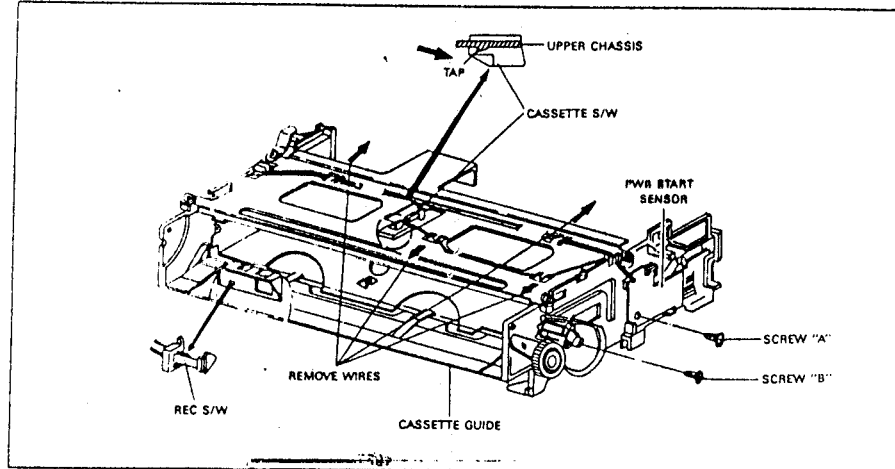

FIG. 15 REC S/W / CASSETTE S/W / PWB START SENSOR / Side Arm (R) Removal
2. Remove REC S/W (Fig. 15)
4. Release the tab of the cassette S/W and remove the cassette S/W. (Fig. 15)
5. Pwb Start sensor removal (Fig. 15)
- After removing the screw (A) at the side chassis (R), disintegrate PWB start sensor.
6. Remove the wires. (Fig. 15)
8. After removing the screw (B), remove the side arm (R) (Fig. 15)